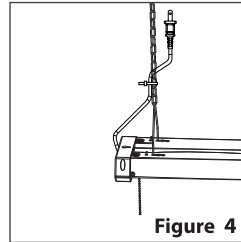

Figure 4
6. Zip tie cord to chain so that excess cord is kept out of the work space. (see Figure 4).